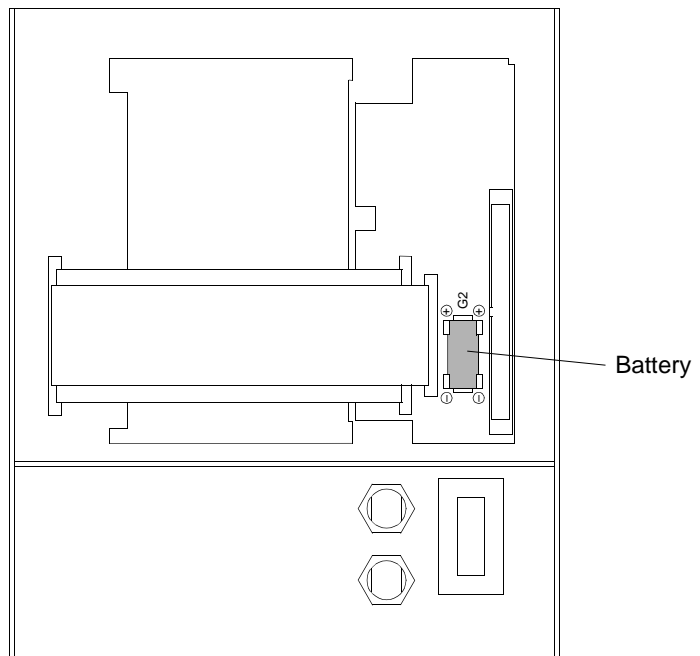

Figure 9-2 Rear view of the front panel (1/2 case) showing battery location
- ☐ Place the new battery into the clamp fixture as shown in Figure 9-2.
- ☐ Fuse in the power supply has not blown. The location of the fuse is shown in Figure 9-2. If the fuse needs to be replaced, see Sub-section 9.5.2.
- ☐ Remove the defective fuse. Figure 9-2 illustrates the fuse. The location is subject to change, but there is only one fuse on the CPU board.